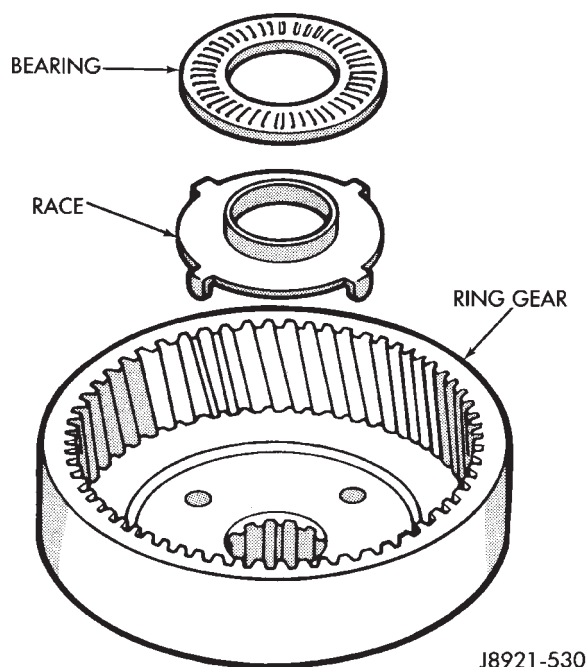

Fig. 22 Install Ring Gear Bearing And Race
(5) Coat planetary race with petroleum jelly and install it on planetary gear. Outside diameter of race is 41.8 mm (1.646 in.) and inside diameter is 27.1 mm (1.067 in.).
(6) Install hub in planetary ring gear and install snap ring.
(7) Coat race and bearing with petroleum jelly and install in planetary ring gear (Fig. 22).
(8) Verify bearing/race size. Outside diameter of race is 47.8 mm (1.882 in.) and inside diameter is 24.2 mm (0.953 in.). Outside diameter of bearing is 46.8 mm (1.843 in.) and inside diameter is 26 mm (1.024 in.).